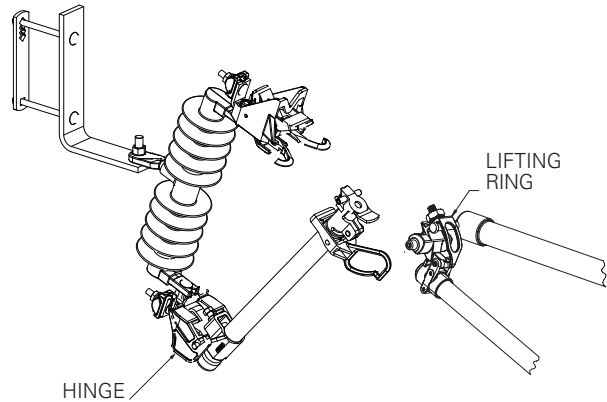

Figure 4. Inserting the fuse into the UltraSIL Polymer-Insulated fuse holder cutout
2. **Place the fuse into the hinge** of the cutout (See **Figure 4**).